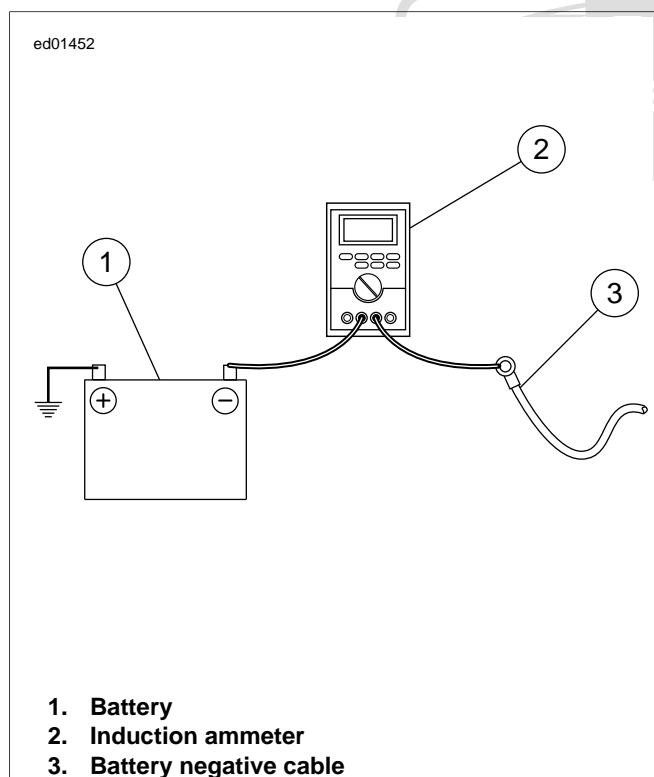

Figure 1-20. Milliampere Draw Test (Ignition turned to OFF)
- See Figure 1-20. Connect ammeter between negative battery terminal and battery. With this arrangement, you will also pick up any regulator drain.